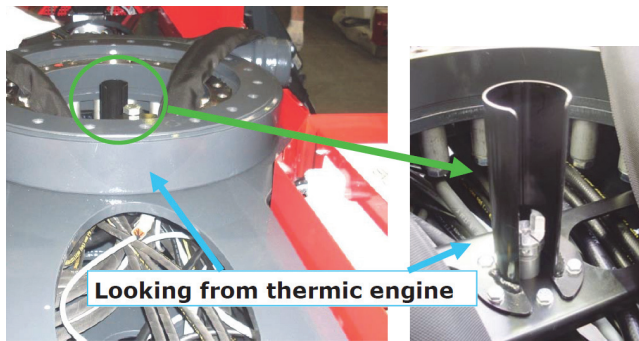

Figure 4-31.
6. Install the protective cover over the rotation sensor assembly using 3-6x16M TE screws and washers. Install cover with the open slot facing the engine end of the machine. See Figure 4-31.